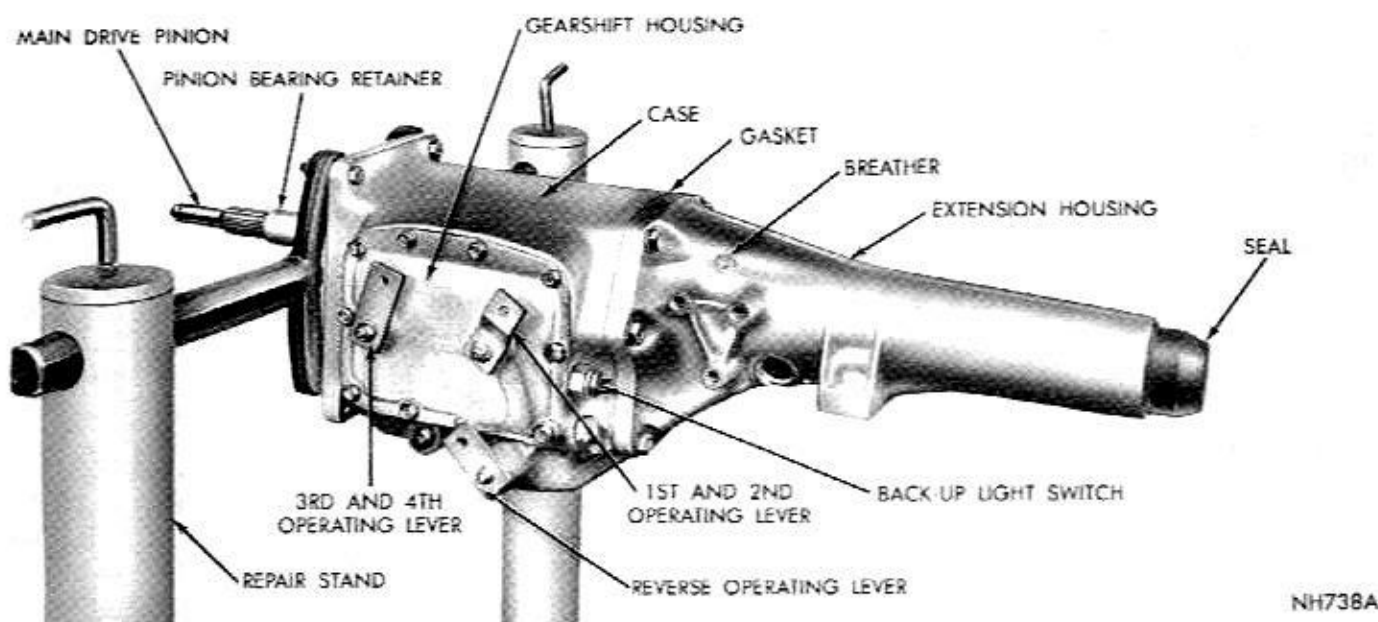

Fig. 14—A-833 Transmission in Repair Stand
(8) Support transmission with a suitable jack and remove center crossmember. Remove transmission to clutch housing bolts.
(9) Slide transmission toward rear until drive pinion shaft clears clutch disc, before lowering transmission.
(10) Lower transmission and remove from under vehicle. Thoroughly clean exterior of unit, preferably by steam. Mount transmission in repair stand (Fig. 14).